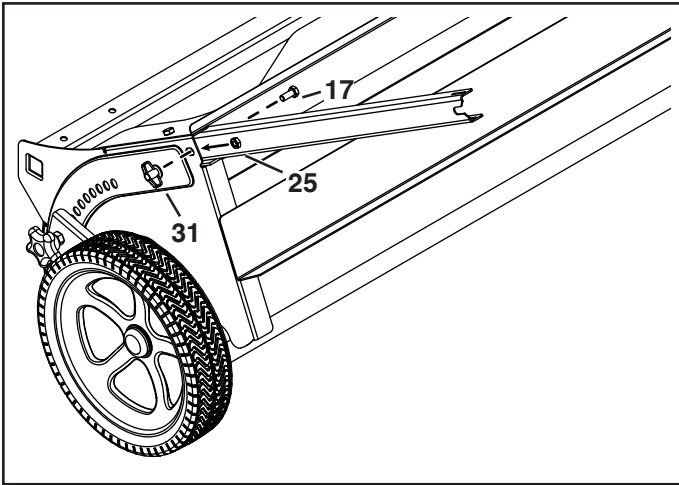

FIGURE 2
- To lock the bag arm channels into position, secure each of them to the side of the sweeper housing with a 5/16-18 x 3/4" hex bolt (17), a 5/16" jam nut (25) (between the bag arm channel and the sweeper housing) and a plastic wing nut (31). See figure 2.